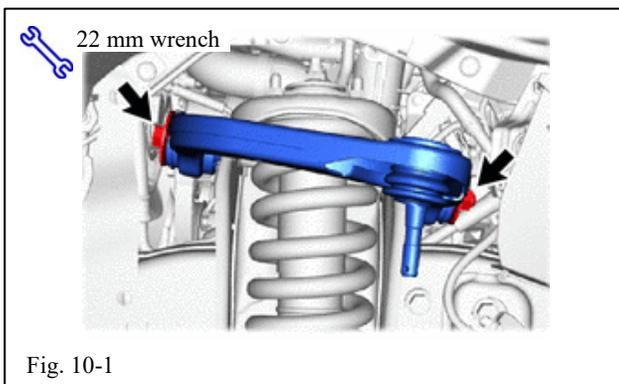

Fig. 10-1
- (a) Remove the bolt, nut, and 2 washers from the control arm. Retain them for installation (Fig. 10-1).